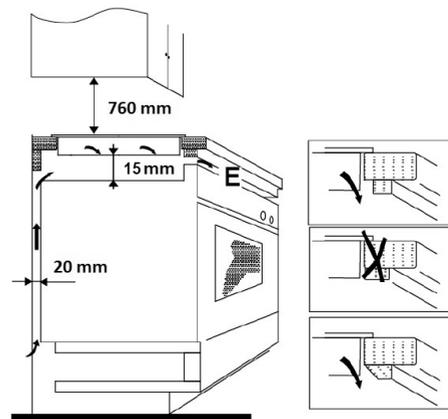

Fig. 8
5. A separate cabinet without a cooking hood should be at least 760 mm above the hob (Fig. 8).
6. For sufficient air circulation the appliance needs to be installed as shown in Fig. 8 and the cabinet must be designed so that the air can flow at the bottom. Make sure that the ventilation space of 15 mm, between the drawer and the rear wall and 20 mm between the drawer and the hob, is free (Fig. 8).